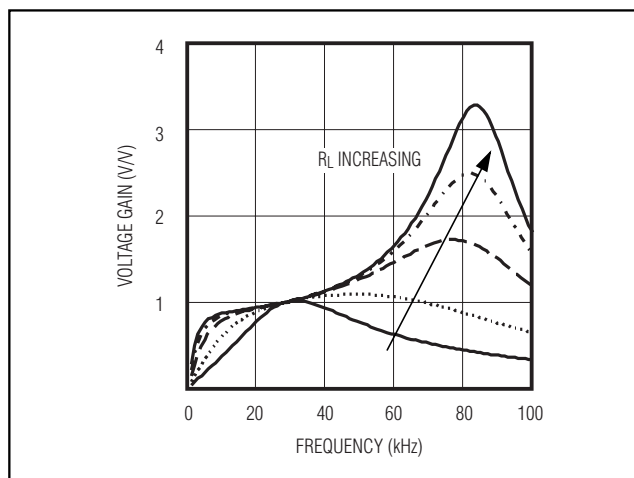

Figure 8. Frequency Response of the Resonant Tank
Figure 8 shows the frequency response of the resonant tank's voltage gain under different load conditions. The primary series capacitor is 1μF, the secondary parallel capacitor is 15pF, the transformer turns ratio is 1:78, and the secondary leakage inductance is 260mH. Notice that there are two peaks, f_s and f_p , in the frequency response. The first peak, f_s , is the series resonant peak determined by the secondary leakage inductance (L) and the series capacitor reflected to the secondary (C'S):